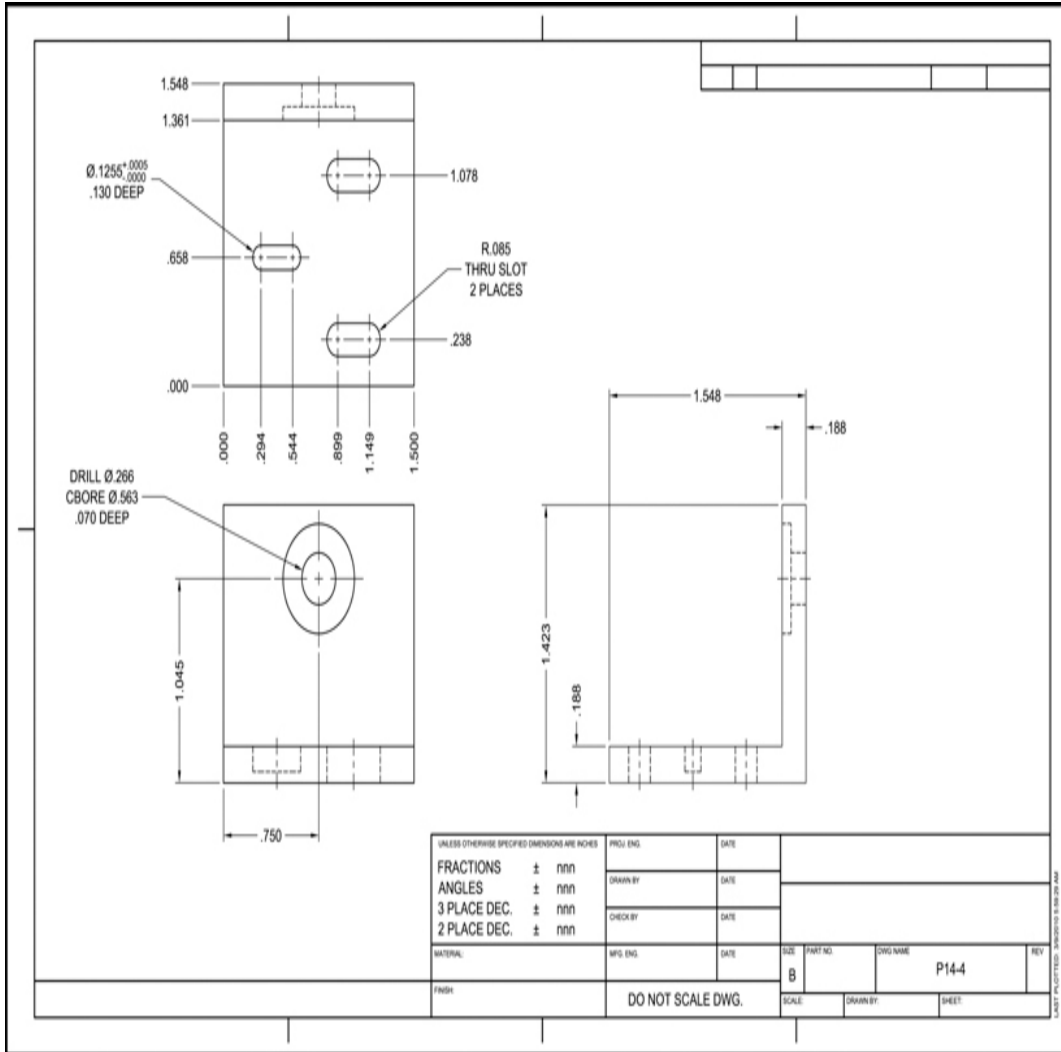

Figure 14-51
5. Set the viewport scale to **2:1** and center the view as shown in Figure 14-51.